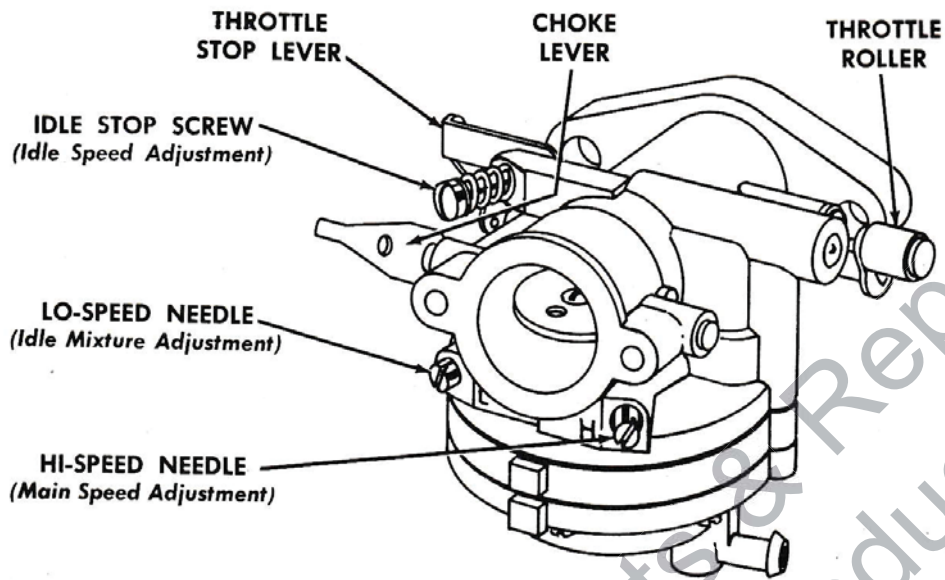

Figure 13—Carburetor Controls—Tillotson Model HL-27B
(1) CARBURETOR ADJUSTMENT (see figures 13 & 14)
(b) This chain saw fuel system features either a Brown CP or Tillotson HL type, all angle operation carburetor. The approximate needle settings are the same for both carburetors (see figures 13 & 14). Always begin the carburetor adjustments by making the following approximate settings: